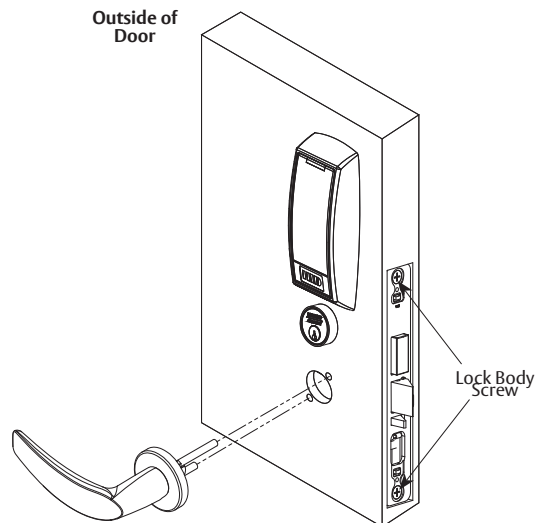

Figure 7
- With outside lever horizontal, insert mounting posts through outside of door and lock body. Make certain the lever spindle is properly engaged inside the lock body (Figure 7).